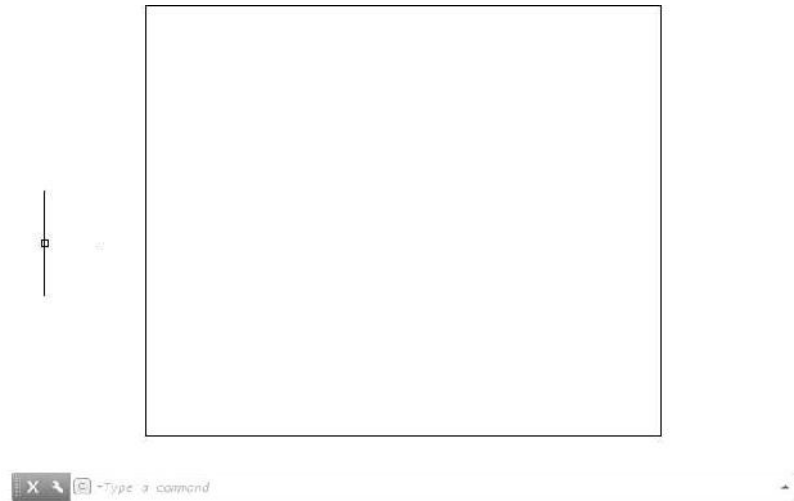

FIGURE 2.16: The first four lines of the box
Typing **C↵** after drawing two or more lines closes the shape by extending the next line segment from the last point specified to the first point (see Figure 2.16). It also ends the LINE command. Notice that, in the command-line interface, the prompt is Type a command. This signifies that AutoCAD is ready for a new command.
6. Type `C` to close the box and end the `LINE` command. Your box once again resembles the box shown previously in Figure 2.16.
8. Type **C↵** to close the box and end the **LINE** command. Your box once again resembles the box shown previously in Figure 2.16.